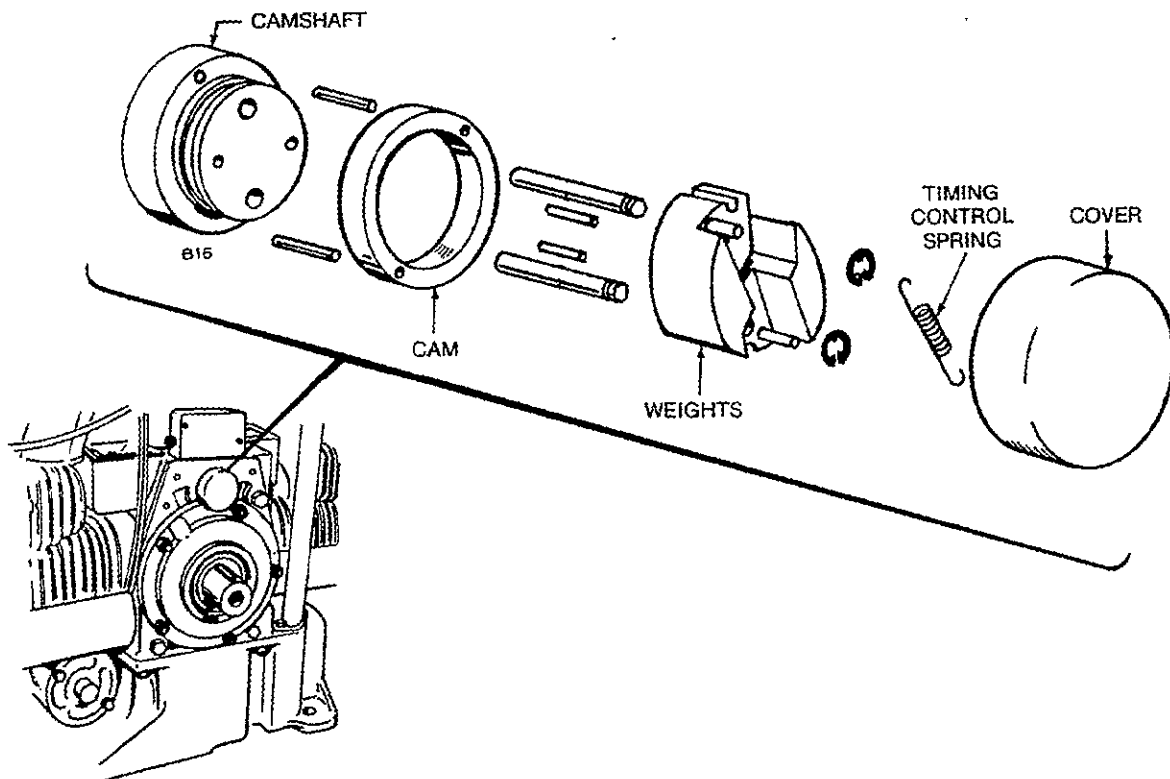

FIGURE 36. SPARK ADVANCE MECHANISM
**Spark Advance Mechanism (Figure 36):** The spark advance mechanism is located on the rear of the camshaft and is standard on magneto models. It is operated by centrifugal force. As the engine speeds up, the weights rotate the cam and advance the spark. The cam returns to the retarded position as the engine speed is decreased. If the mechanism should become dirty or gummy, it would remain closed (retarded), causing the engine to lose power. If the mechanism remains open (advanced), the engine would possibly kick back on cranking. The cam advance must operate freely. Some units are snap acting. Should the engine fail to pick up speed or tend to alternately increase and decrease speed, the mechanism may require cleaning.